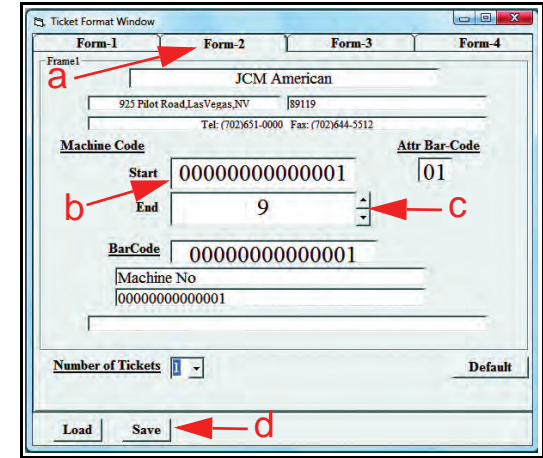

Figure 5 Ticket Format Form-2 Screen
The “Form-2” Tab (See Figure 5 a) allows the user to create and print a series of consecutive ticket numbers.
1. Simply insert the starting and ending numbers of the range you wish to print in the ‘Start’ (See Figure 5 b) and ‘End’(See Figure 5 c) **Machine Code** Windows and
2. Press the ‘Save’ Screen Button **Save** (See Figure 5 d) to store the data.